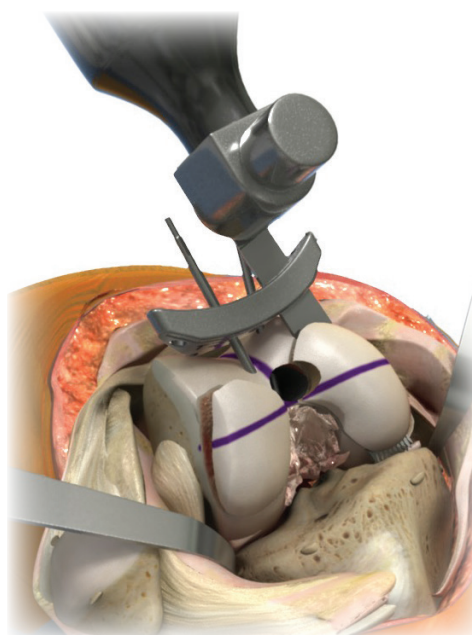

Figure 8
11. Resect the distal femur using an oscillating saw (Figure 8).